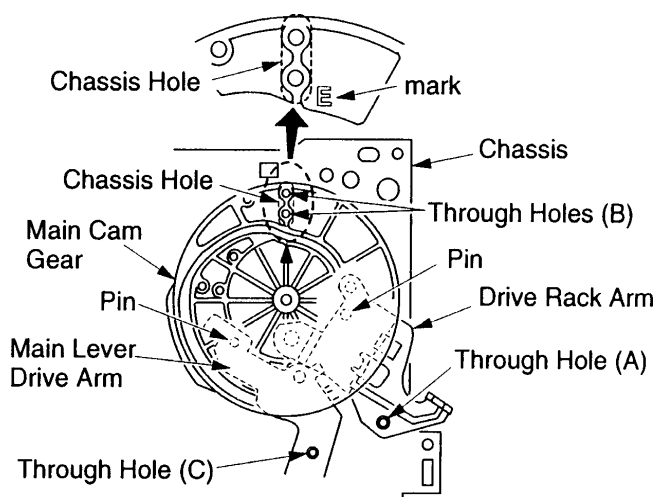

Fig. 7 - Main Cam Gear/Drive Rack Arm Alignment Procedure
**Main Cam Gear/Drive Rack Arm Alignment Procedure (Fig. 7)**
1. Confirm that hole (C) on the main lever drive arm is aligned with the through hole (C) on the chassis as shown in Fig. 7.
2. Install the drive rack arm so that hole (A) is aligned with the through hole (A) on the chassis.
3. Install the main cam gear so that the two (2) holes (B) with the "E" mark beside them are aligned with the through hole (B) on the chassis. The "E" mark indicates eject position.